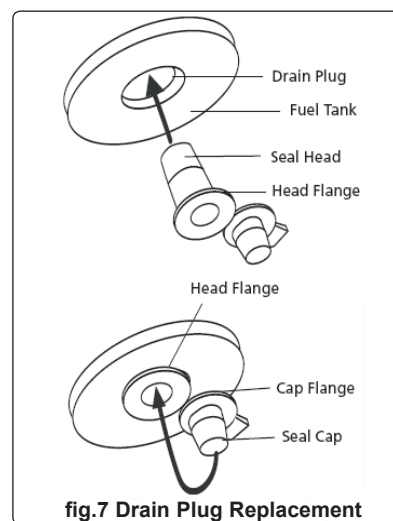

fig.7 Drain Plug Replacement
- 6.2.2. Replace the seal head back into the drain hole and push the plug grip into the seal head to lock into position (fig.7).